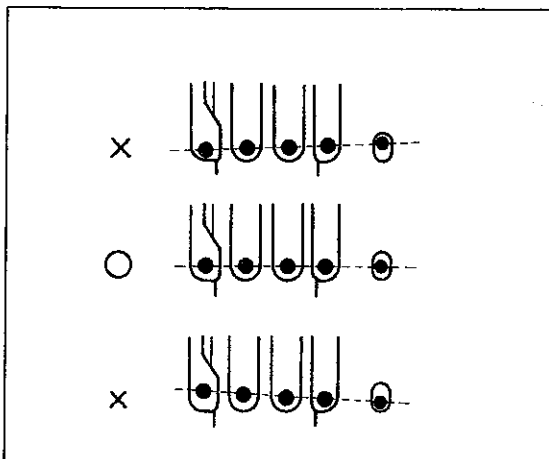

Fig. 1-4
- (1) Rotate the pulley to move the needle bar ③ to the highest point.
- (2) Insert the needle height test pin ① into the fourth hole to the left of the needle clamp ④.
- (3) Remove the seal plug ⑤.
- (4) Loosen the screw ⑥.
- (5) Adjust so that the 13.49 mm (12.70 mm) section of the needle height gauge ② can enter smoothly with no clearance.
- (6) Set the needle, and make sure that the needle and the needle drop are parallel. (Fig. 1-4)
- (7) Tighten the screw ⑥.
- (8) Install the seal plug ⑤.